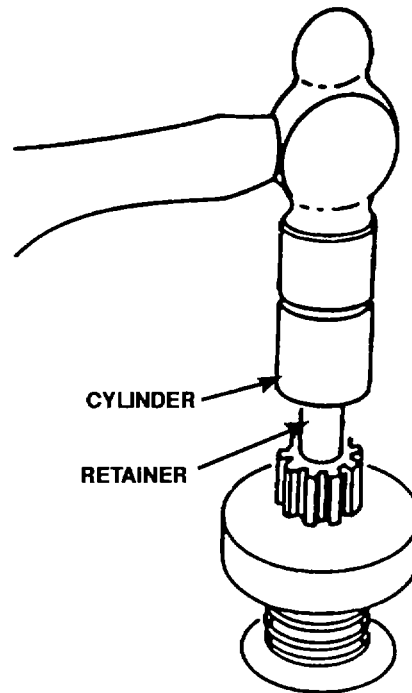

Figure 4-60. Starter Drive Retainer Removal
12. Remove stator housing from drive end (DE) bearing housing. Ensure the rubber strip and metal plate are not lost.
- b) Drive the collar toward the pinion and off the snap ring (figure 4-60).